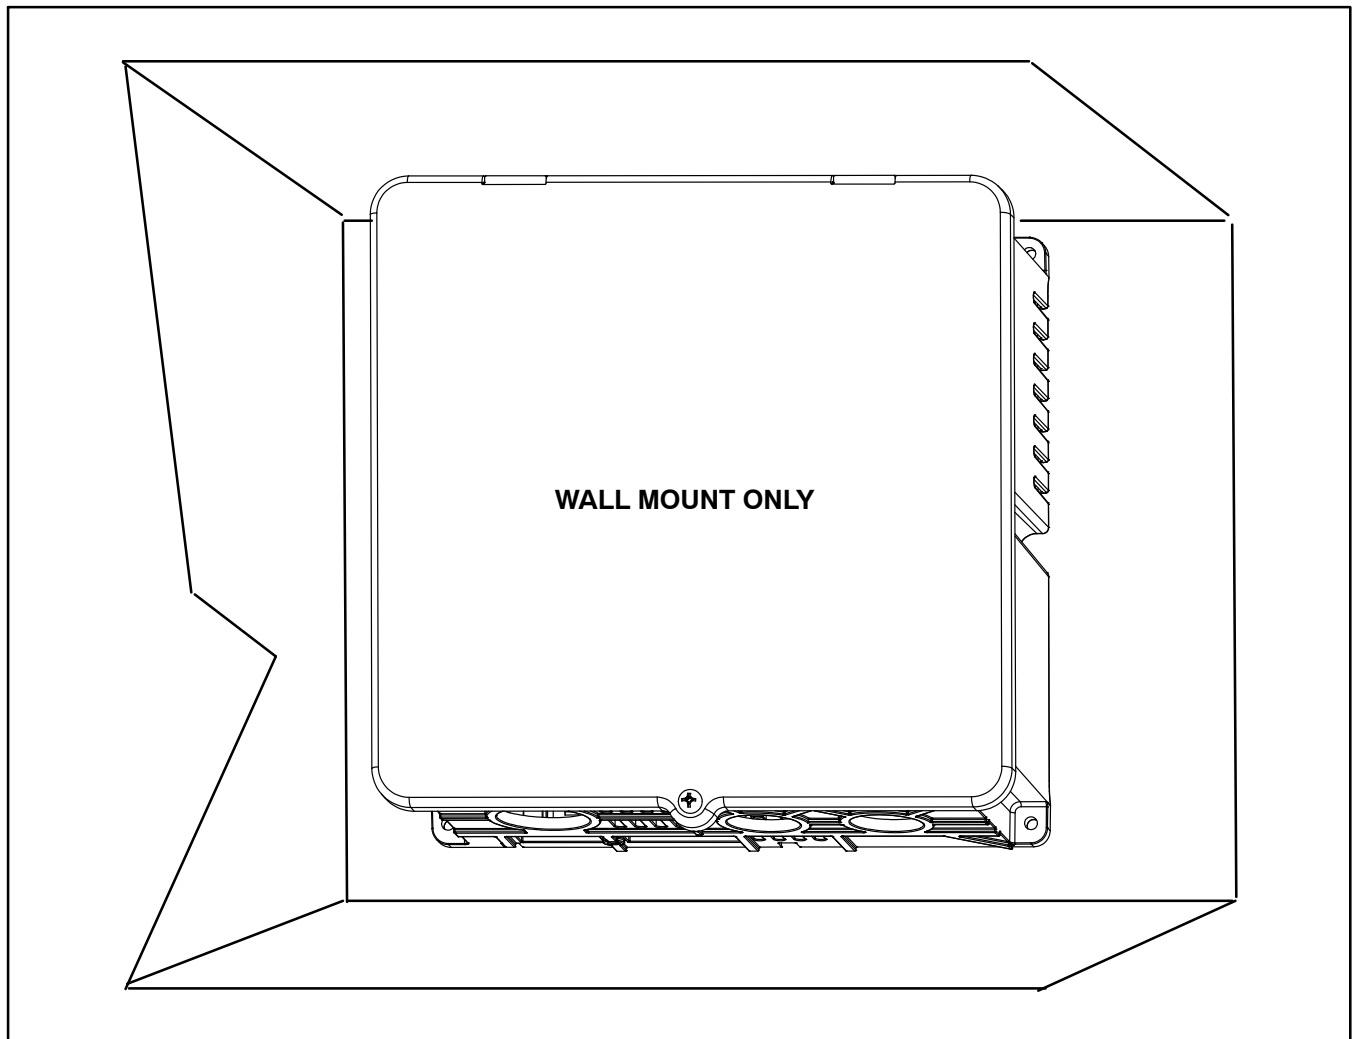

FIGURE 4-1. TRANSFER SWITCH WALL MOUNT
*function.* Secure it to the enclosure wall with four 1/4 inch (6 mm) screws. Any side may be up. Figure 4-1 illustrates wall mounting of the Transfer Switch.